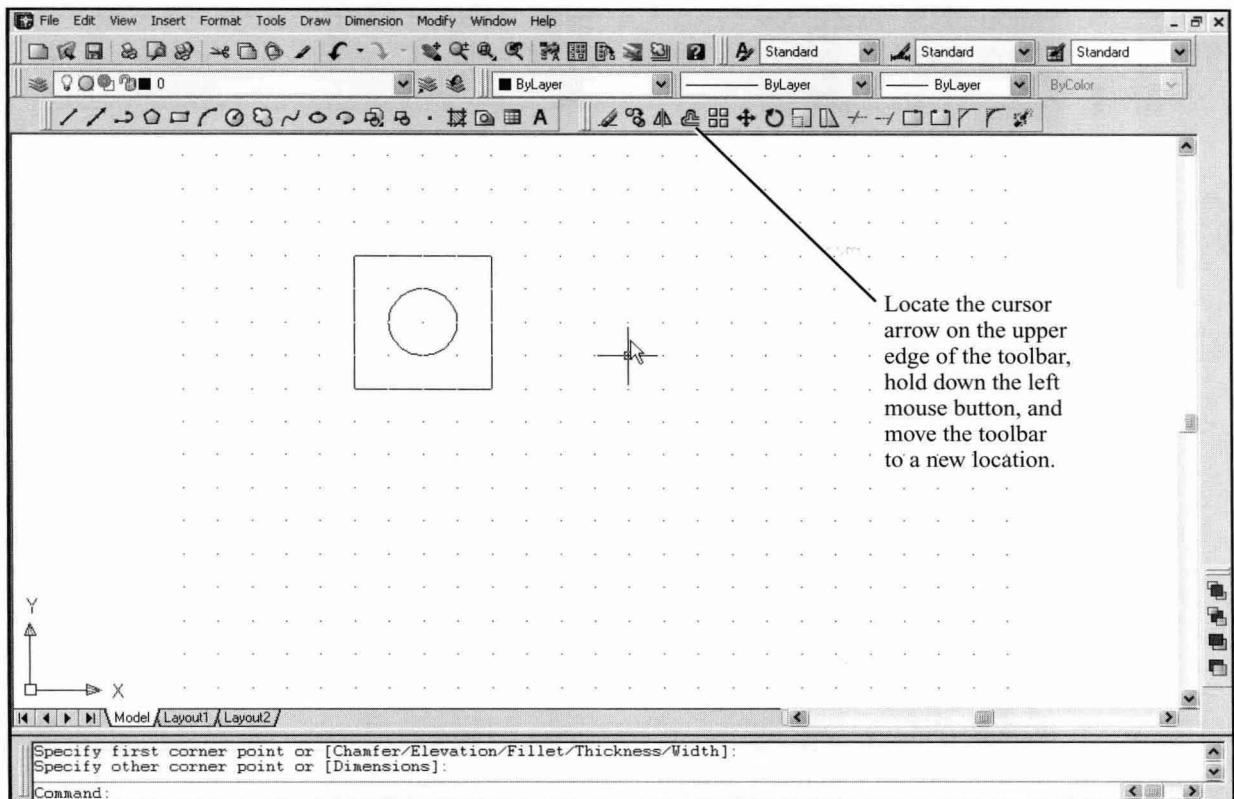

Figure 1-2
The large open area in the center of the screen is called the *drawing screen*, or *drawing editor*. The two rectangular boxes of command icons located along the left edge of the drawing screen are the Draw and Modify toolbars. They can be moved around the screen as shown in Figure 1-2.
See Figure 1-2.
2. Move the reshaped toolbar to its original location along the left side of the drawing screen using the procedure outlined in Figure 1-2.
The selected toolbar will appear on the drawing screen. See Figure 1-5. You can move any toolbar or change its shape as described in Figures 1-2 and 1-3.